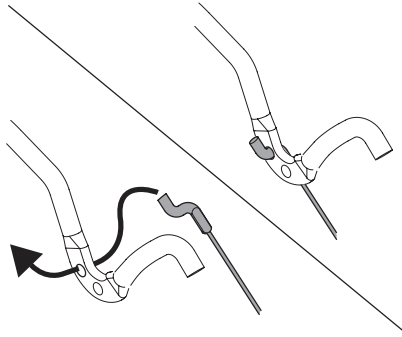

Figure 20
- There is now sufficient slack in the drive control cable to grasp the z-fitting with your hand and move it from the front hole to the rear hole of the drive control. See Figure 20.